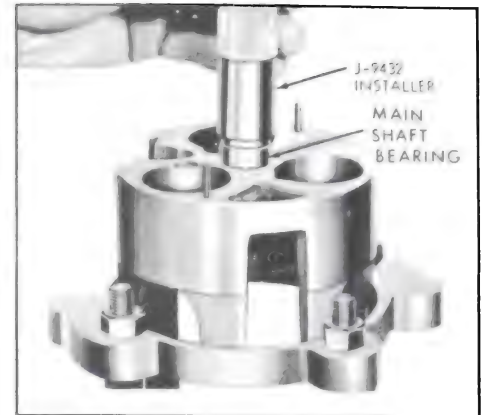

Figure 11-129—Installing Main Shaft Bearing
16. Examine the mainshaft bearings. There is one in each cylinder half. If a bearing is damaged, remove bearing with a suitable socket or punch. Install new bearing with J-9432 so that lettering on bearing is toward outside of cylinder half. See Figure 11-129.